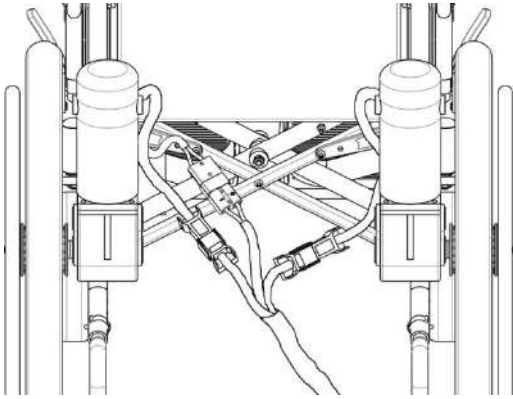

Fig. 1: Product Serial Number label
3.1.1 Product Serial number label is located on the cross bar on the left side of the power wheelchair. Please see Fig. 1.